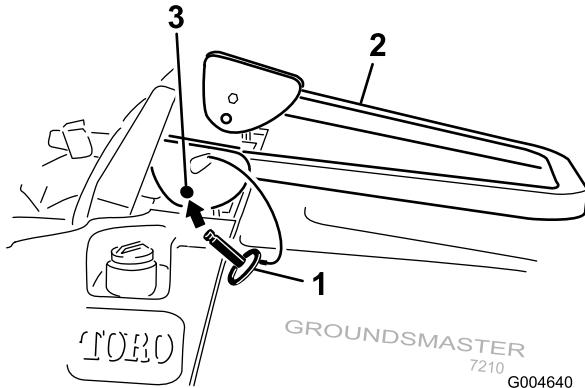

Figure 4
- Lower the roll bar to the down position (Figure 4).